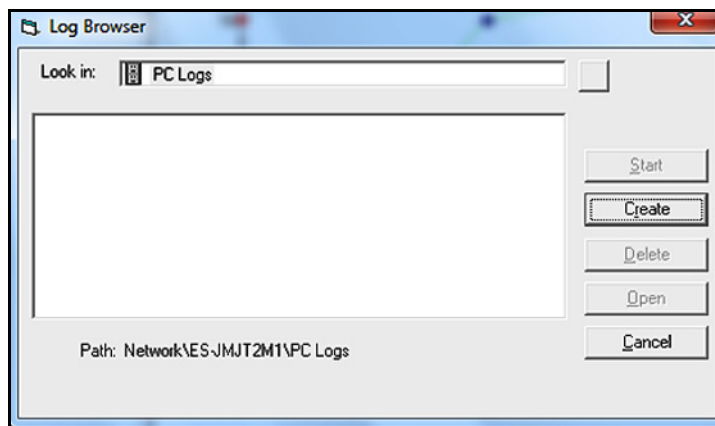

Figure 81: Create a PC Log
4. Double-click *PC logs* to advance to the dialog box shown in *Figure 81* below.
5. At the dialog box shown in *Figure 81* on page 66, click [Create] button to create a new meter log.